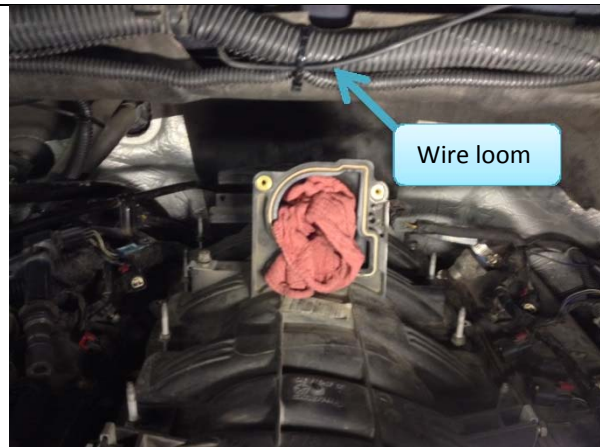

Figure 21: Intake manifold with wire loom above.
- 14.4.3. Slide under wire loom on firewall (Figure 21)